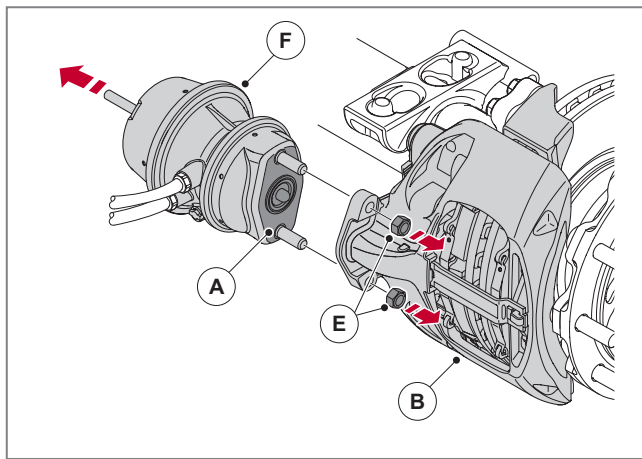

Fig. 24 - Removing the brake chamber components
4. If applicable, ensure that the spring brake chamber see ► Fig. 24 (F) is fully disengaged and mechanically secured in this position.
6. Remove the two nuts (E) holding the brake chamber. Remove the brake chamber (A/F) from the brake calliper (B), see ► Fig. 24.